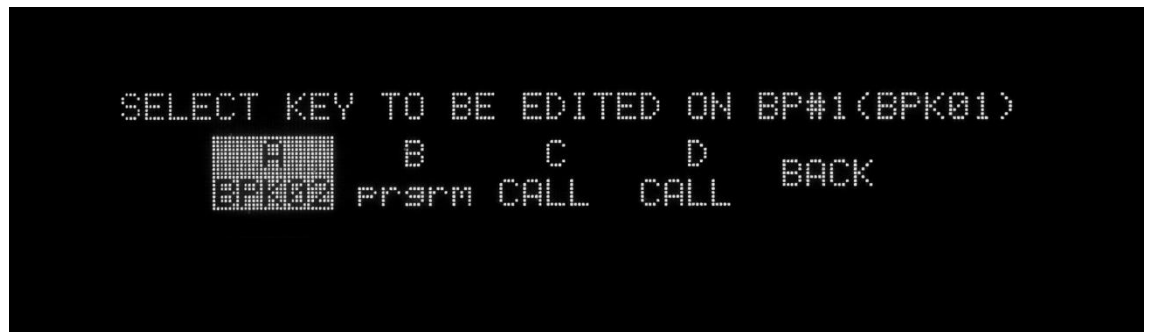

Figure 6-17 Select beltpack key
- 4) A list of the audio routes and groups available for selection is visible. Select the beltpack key to assign communication to (A, B, C or D). See Figure 6.17 below.